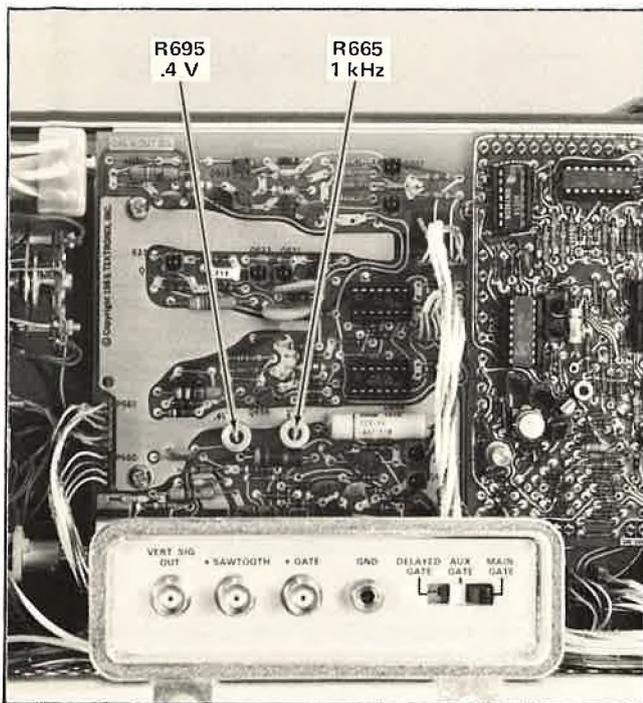

Fig. 5-14. Location of adjustments on the Calibrator and Output Signals board.
26. Check/Adjust Calibrator Amplitude ①
c. ADJUST—0.4 Volt adjustment, R695 (see Fig. 5-14), for a reading of 0.4 volt.
k. ADJUST—1 kHz adjustment, R665 (see Fig. 5-14), to align the leading edges of the calibrator square wave with the 1 millisecond time markers.
p. ADJUST—R665 (see Fig. 5-14) for slowest drift of time markers across calibrator square wave.